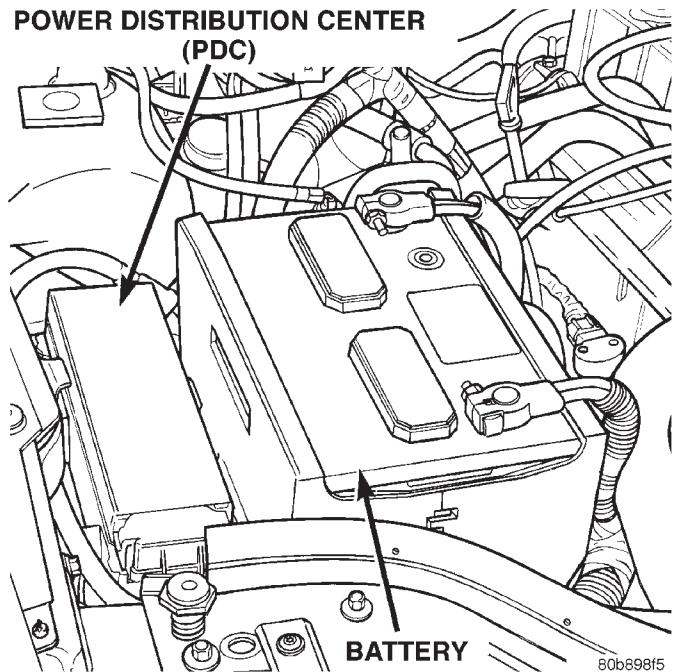

Fig. 3 Power Distribution Center (PDC) Location
(2) Inspect battery cable connections. Be sure they are clean and tight.
(3) Inspect fuel pump relay and air conditioning compressor clutch relay (if equipped). Inspect ASD and oxygen sensor heater relay connections. Inspect starter motor relay connections. Inspect relays for signs of physical damage and corrosion. The relays are located in the Power Distribution Center (PDC) (Fig. 3). Refer to label on PDC cover for relay location.